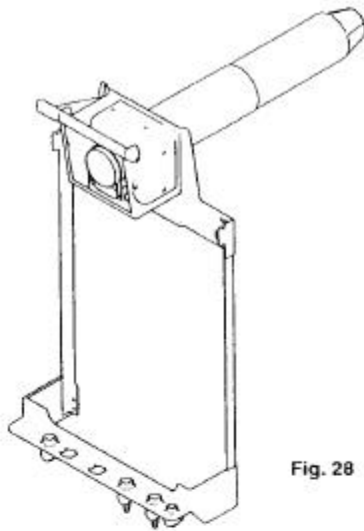

Fig. 28
1. Engage the assembly into the hole previously cut in the wall and slide in place (Fig. 28).